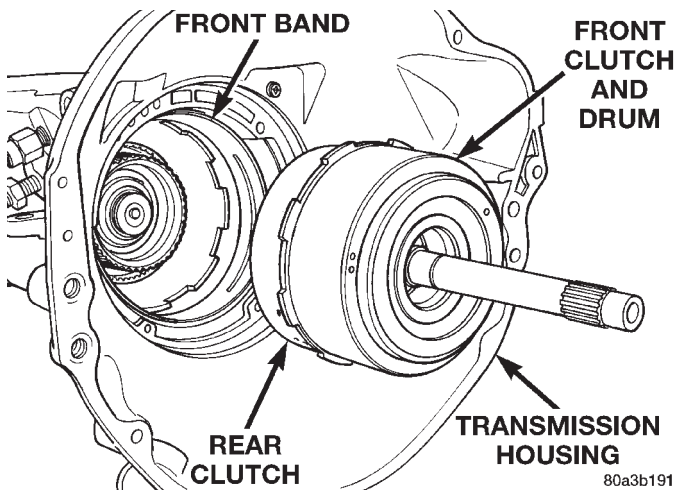

Fig. 79 Front/Rear Clutch Assemblies
(18) Remove front and rear clutch units as an assembly. Grasp input shaft, hold clutch units together and remove them from case (Fig. 79).